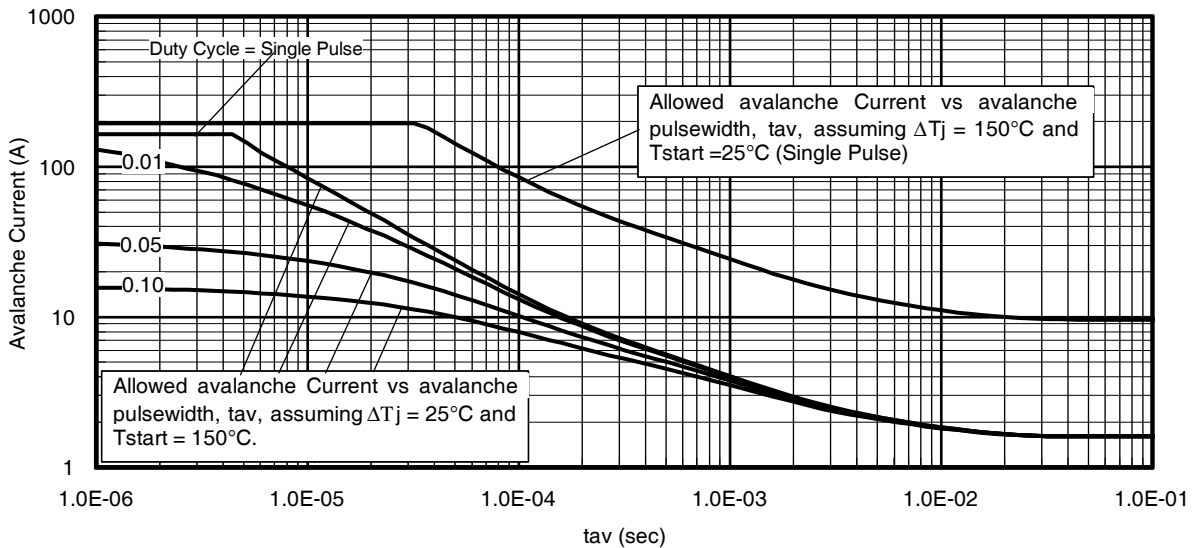

Fig 14. Typical Avalanche Current vs. Pulsewidth
- ④  $I_{SD} \leq 165A, di/dt \leq 430A/\mu s, V_{DD} \leq V_{(BR)DSS}, T_J \leq 175^\circ\text{C}$ .
- ⑤ Pulse width  $\leq 400\mu s$ ; duty cycle  $\leq 2\%$ .
- ⑥  $C_{oss\ eff. (TR)}$  is a fixed capacitance that gives the same charging time as  $C_{oss}$  while  $V_{DS}$  is rising from 0 to 80%  $V_{DSS}$ .
- ⑦  $C_{oss\ eff. (ER)}$  is a fixed capacitance that gives the same energy as  $C_{oss}$  while  $V_{DS}$  is rising from 0 to 80%  $V_{DSS}$ .
- ⑧ When mounted on 1" square PCB (FR-4 or G-10 Material). For recommended footprint and soldering techniques refer to application note #AN-994.
- ⑨  $R_{\theta j}$  is measured at  $T_J$  approximately  $90^\circ\text{C}$ .
- ⑩ Limited by  $T_{Jmax}$ , see Fig. 14, 15, 22a, 22b for typical repetitive avalanche performance.
- ⑪  $R_{\theta jc}$  value shown is at time zero.
**Notes on Repetitive Avalanche Curves, Figures 14, 15:**
7.  $\Delta T$  = Allowable rise in junction temperature, not to exceed  $T_{jmax}$  (assumed as 25°C in Figure 14, 15).